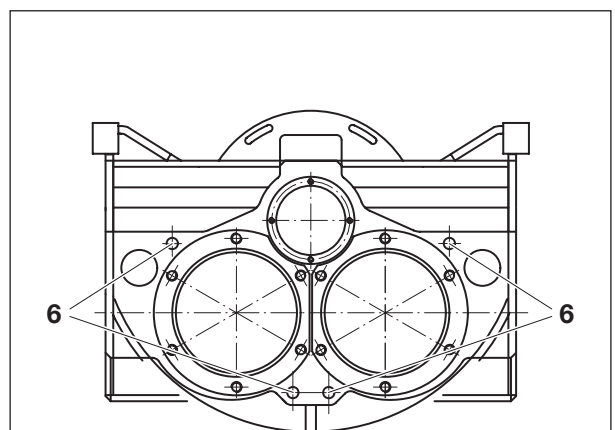

**Fig. 9.24 Changing the wear plate and wear ring 1**
2. Pull the right hand motor (4) out approx. 10 mm and put the agitator shaft (3) to one side.
3. Remove the retaining ring (5), pull the left and right hand motors (4) out and put them to one side. Take care not to kink the hydraulic hoses.
4. Remove the screws (6) and take out the spacer plates with the seals (7).
5. Exchange the seals (7) and refit them. The gap between the seals must be completely filled with grease.
6. Reassemble the motors (4) and shafts (3) together with the agitator blades in the reverse sequence to removal (see Fig. 9.24).